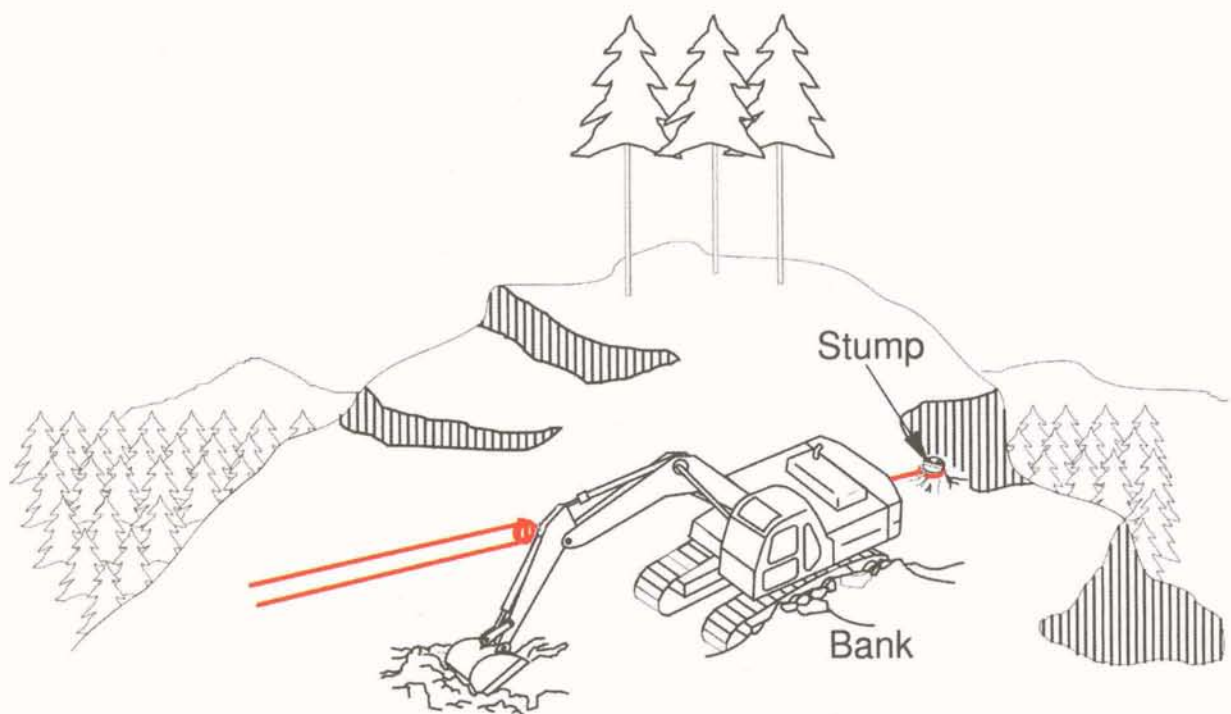

Figure 7 - Sideways movement of the excavator can be minimised by positioning the tracks against a bank, or attaching a strop to the rear of the undercarriage
- (ii) Positioning the tracks against a bank, to oppose likely sideways movement (Figure 7). This method is more effective when the tracks are orientated parallel with the bank (in-line with the direction of pull).
- (iii) Attaching a strop from the rear of the undercarriage to a notched stump opposite the line of pull from the working ropes. The strop can be tensioned by driving the excavator forward before positioning the bucket on the ground (Figure 7).